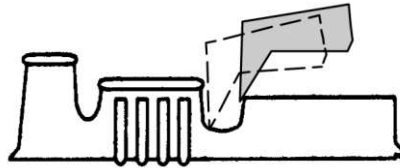

Figure 6
*If pick-up point is contact end of wire barrel, backstroke over-travel should be about equal to the distance between wire barrel and contact part of terminal (see Figure 6). For other types of terminals (e.g., ring tongue), over-travel should be about the same, depending on contact features and configurations (e.g., stud hole).*